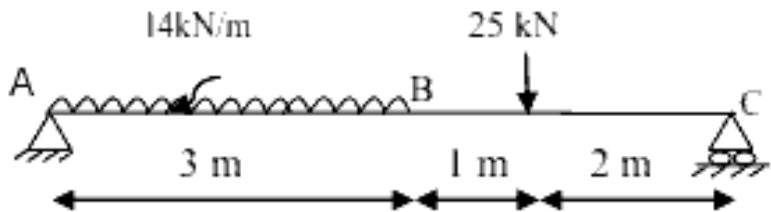

Fig. 3 Q-5 (b)
- (b)** Find the slope and deflection at point C and B for the beam shown in the Fig. 3 using Macaulay's Method. Take $EI=3000\text{ kN.m}^2$. **07**